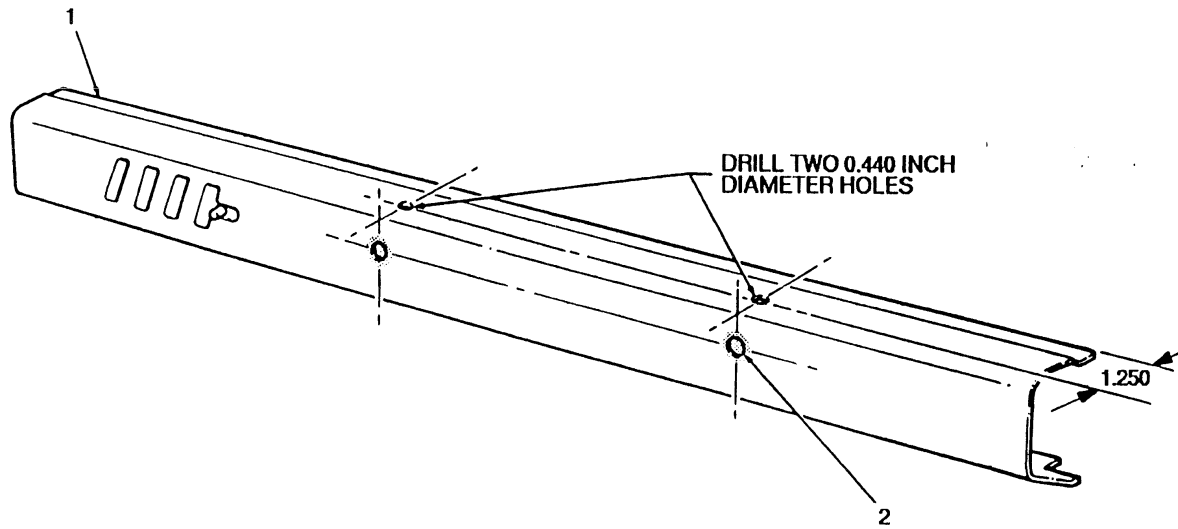
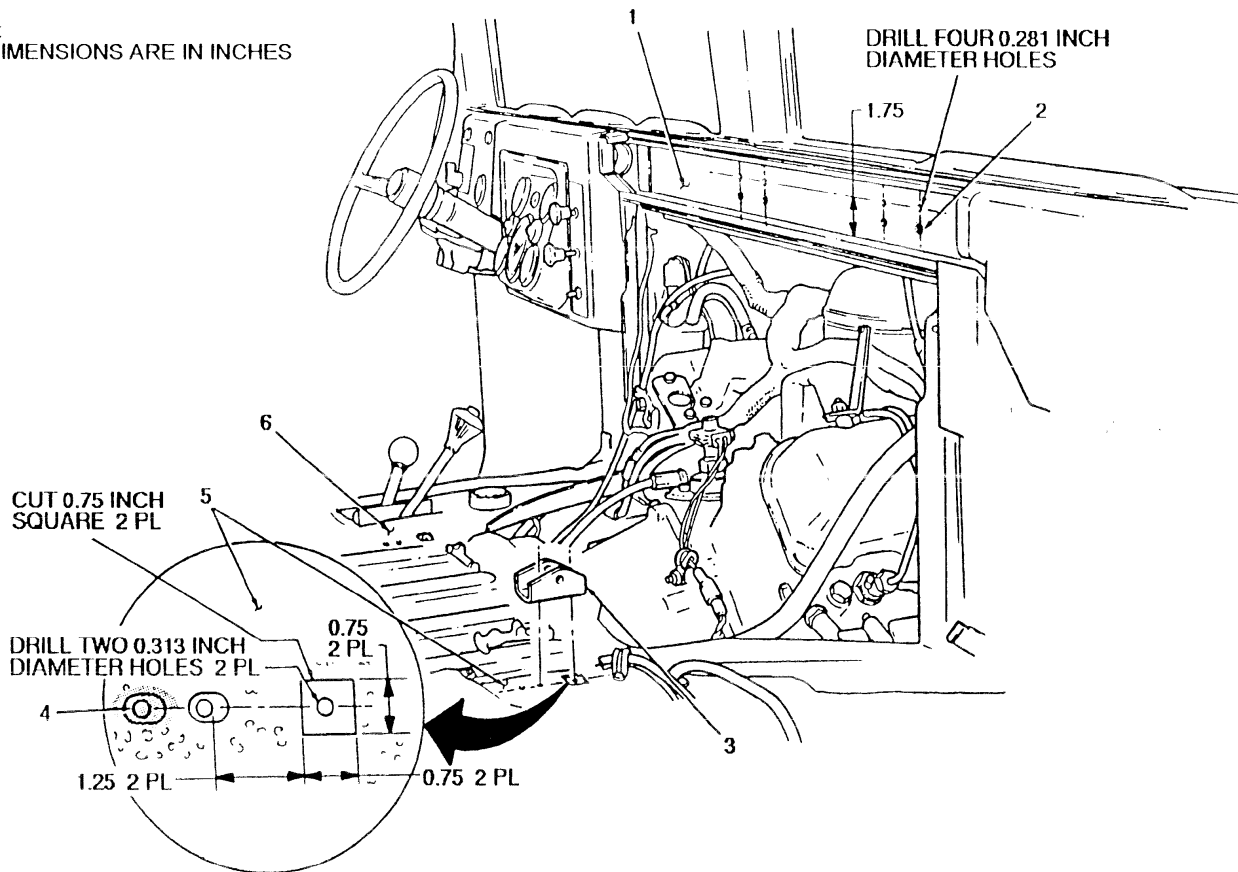

FIGURE 3-65
FIGURE 3-66
1. Locate, mark, and drill two 0.440-inch diameter holes In plenum panel (1). (see figure 3-65)
2. Locate, mark, and drill four 0.281-inch diameter holes In "A" beam (1). (see figure 3-66)
3. Cut two 0.75-inch square holes in floor mat (5) on top of tunnel floor (6).
4. Using two P/N 12446766 radio rack mounting brackets (3) as templates, locate, mark, and drill two 0.313-inch diameter holes in top of tunnel floor (6).
5. Apply NSN 6850-01-159-4844 RTV sealant to two holes (2) in plenum panel (1). (see figure 3-65)
6. Apply NSN 6850-01-159-4844 RTV sealant to four holes (2) In "A" beam (1) and two holes (4) in top of tunnel floor (6). (see figure 3-66)